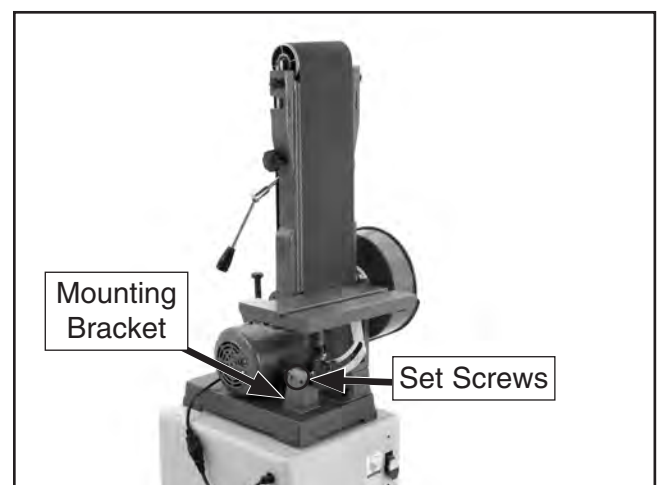

Figure 67. Work table installed for vertical sanding.
8. Loosen the set screws on the mounting bracket behind the motor, then slide the support rod and work table assembly into the bracket hole, as shown in **Figure 67**.